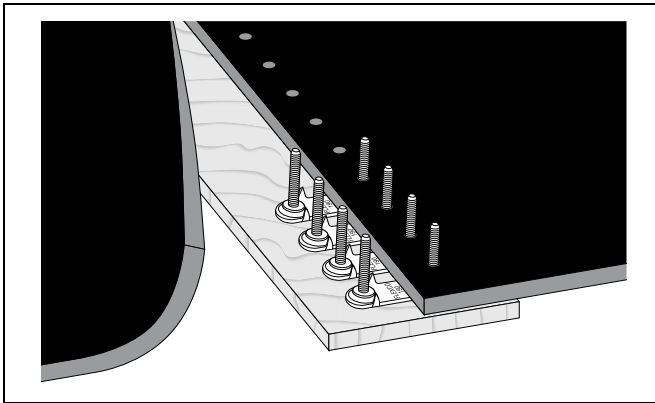

Figure 4G
4. Assemble bolts in bottom plates. Snap clip over heads of bolts. Fold one end of belt back out of the way. Then insert bolts from under side along one row of holes. *(See Figure 4G.)*